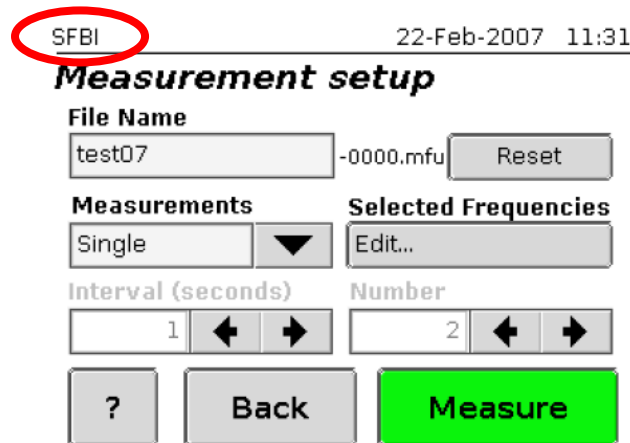

Figure 9. Measurement setup screen for SFBI
34. Tap the down arrow to the left of the “measurements” box and select “single” (figure 9).
35. Now the machine is set to SFBI, the box that said patient details in the BIS mode now says “Selected frequencies” and SFBI is displayed in the upper left of the screen (circled red, figure 9).